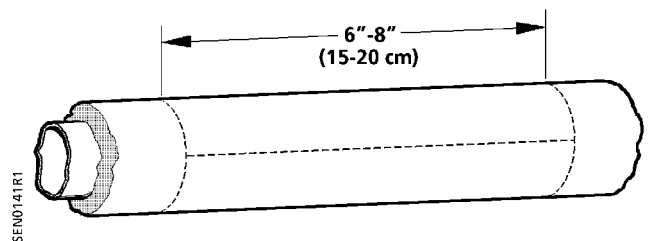

Figure 2. Cutting the Insulation.
1. If the pipe is insulated, remove a portion of the insulation by making two cuts around the circumference of the pipe (six to eight inches [15 to 20 cm] apart). Make a third cut perpendicular to the first two cuts so that a section of the insulation can be removed in one piece (Figure 2). **Save this piece.**